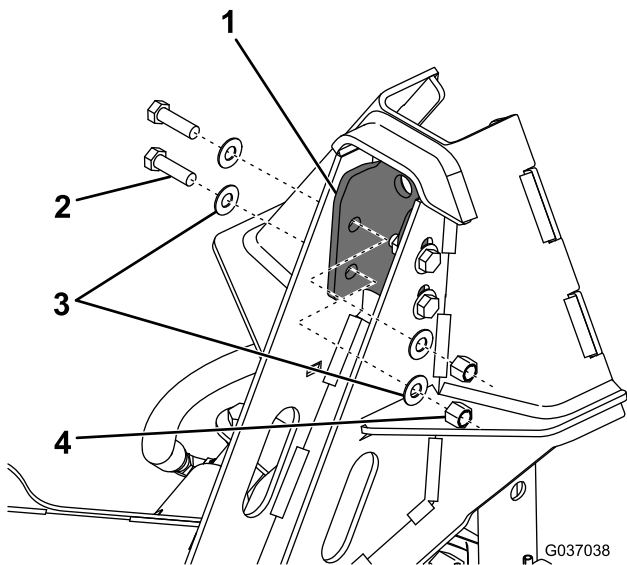

Figure 6
- Loosely attach the pin channel to the push frame using 4 bolts (3/8 inch), 8 washers (3/8 inch), and 4 nylon locknuts (3/8 inch) as shown in Figure 6.